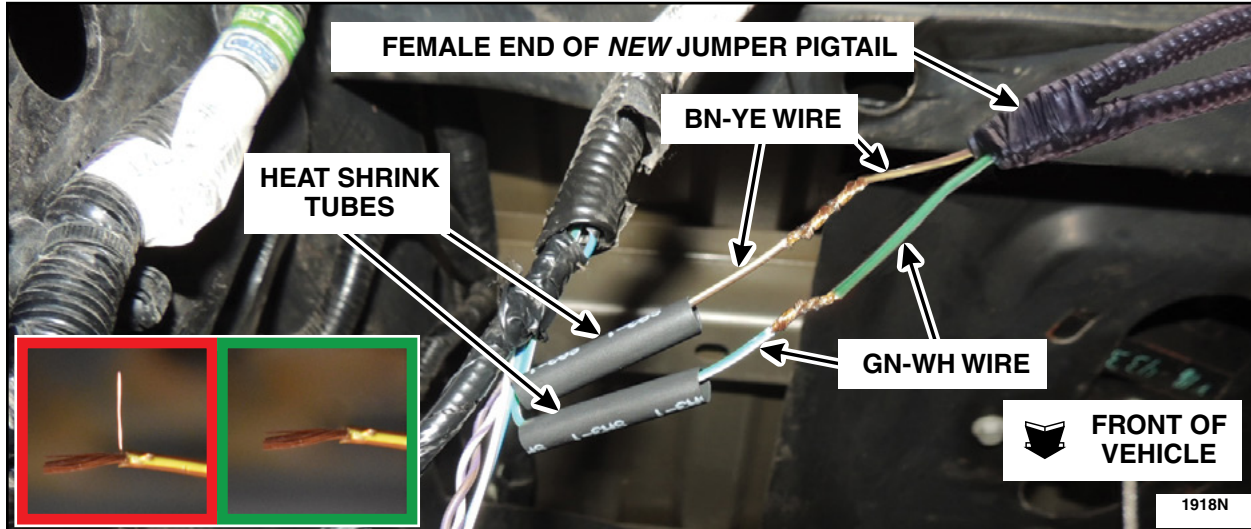

FIGURE 11
14. Install the female end of the *new* jumper pigtail to the corresponding wire colors of the female end of the vehicle harness by twisting the exposed wires together. See Figure 11.